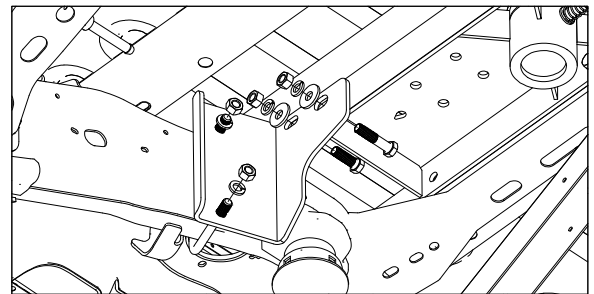

Figure D3: View of passenger side plate looking from floor up at the frame.
2. **Install passenger side plate.** Locate the passenger side plate. Position the side plate so that the two round holes match up to the U-bolt on the passenger side and push the U-bolt into the holes, see Figure D3. Secure the side plate and U-bolt with lock washers and nuts. Attach this side plate to the front cross member and center using a 2-1/4" long bolt through the center, cross member and side plate along with a lock washer, flat washer, and a finish nut. Finish attaching the side plate by placing 1/2" x 1-1/2" long bolt through the cross member and the side plate adding a flat washer, lock washer, and finish nut. Hand tighten these connections.